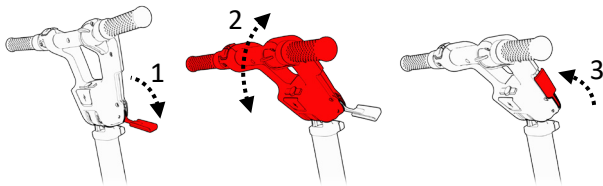

Figure 19 Driving console tilt adjustment
1. Hold the Driving Console in one hand and release the adjusting lever using the other hand (1). (see Figure 19).
2. Adjust the Driving Console angle so you can reach and hold it comfortably with a clear view of the display area (2).
3. Tighten the adjustment lever once you're done (3).